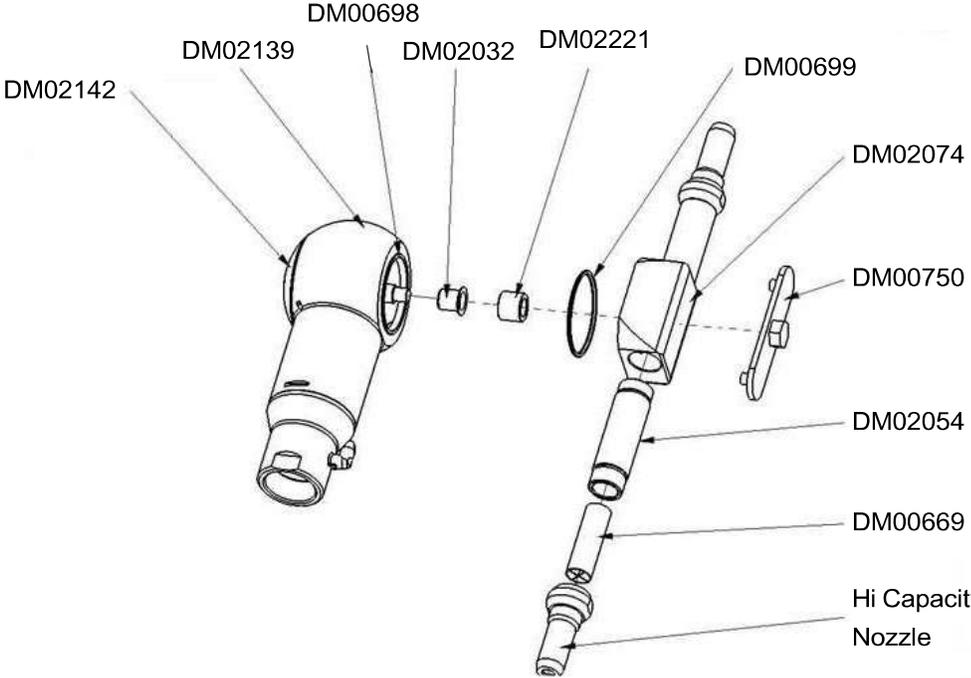

Figure 16: Hi-Capacity Orbitor
- 14. For Hi-capacity version see Figure 16.
8. For Hi-capacity version, see Figure 16.
Hi Capacity Components – Refer to Figure 16